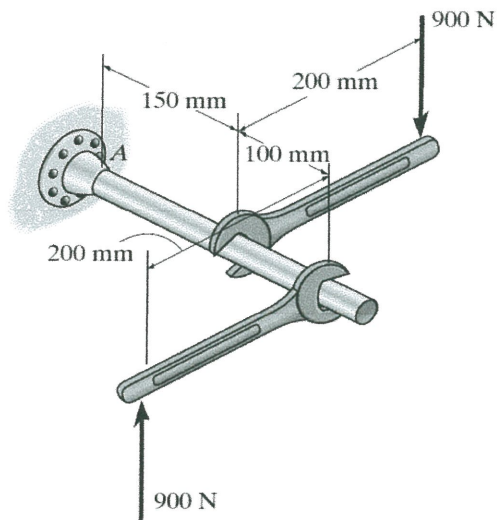

FIGURE Q6
- Q6** Tubular steel shown in **FIGURE Q6** has an outer and inner diameter of 30 and 20 mm, respectively and it is subjected to torques at different locations. If A is a point of interest (Yield strength, $\sigma_y = 250 \text{ MPa}$).